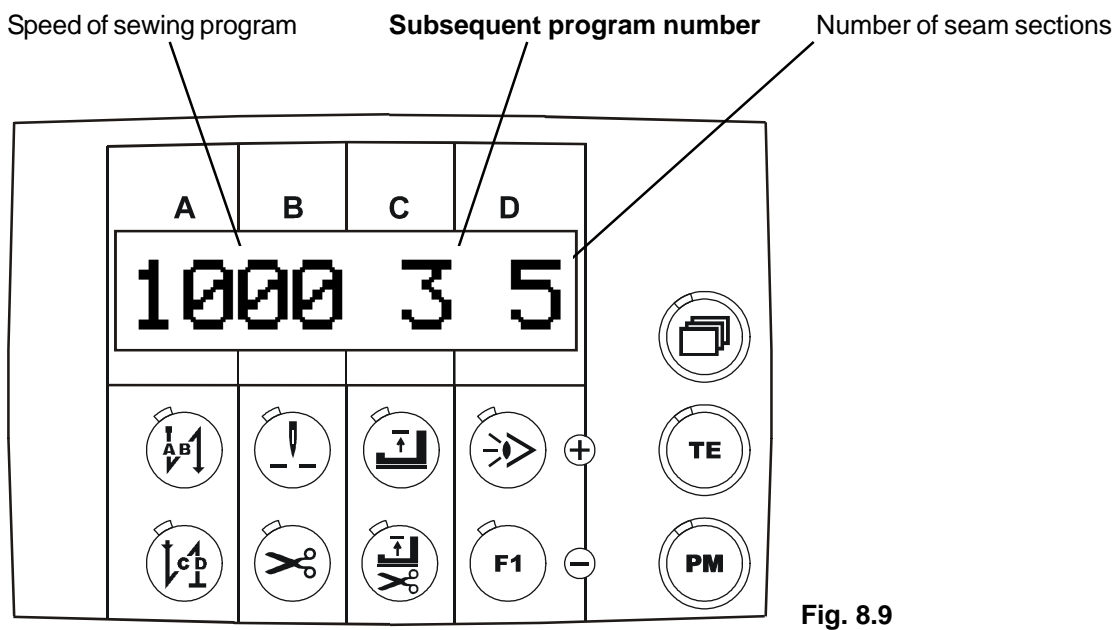

Fig. 8.9
6.12 Press the **paging key** until the display **Fig. 8.9** appears